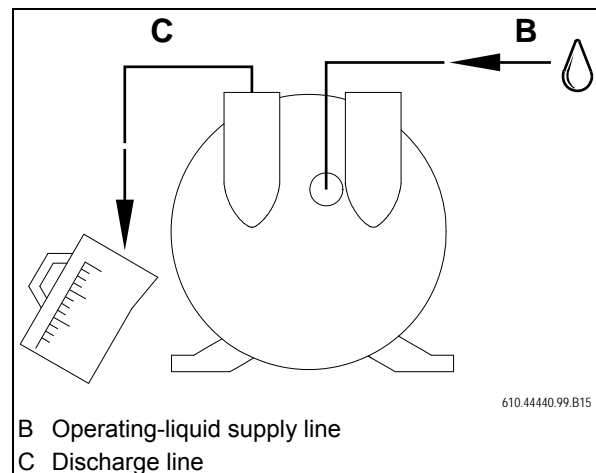

Fig. 14: Adjusting the operating-liquid flow-rate: Measuring the flow-rate using a measuring cup
- by measuring the quantity of operating-liquid per unit of time flowing from the discharge connection using a measuring cup (Fig. 14, page 23)